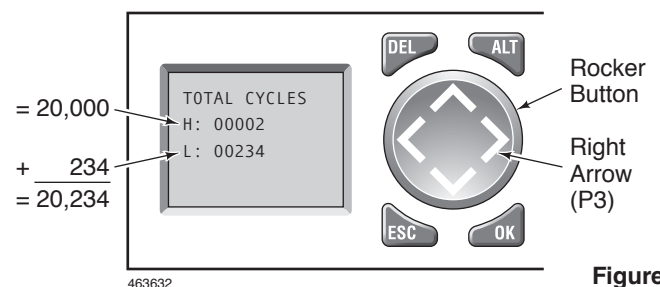

Figure 40
To see the number of cycles the operator has performed, press Right Arrow (P3) until the TOTAL CYCLES screen is displayed. The first row of numbers (H) indicates 10,000s. The second row (L) indicates ones. In the example shown, the total count is 20,234. See Figure 40.